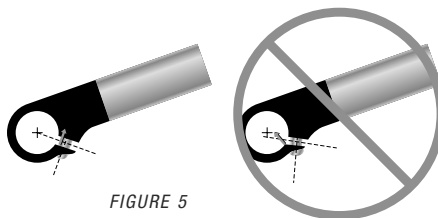

FIGURE 5
- Slot is on center line of bar insertion hole (see Figure 5).